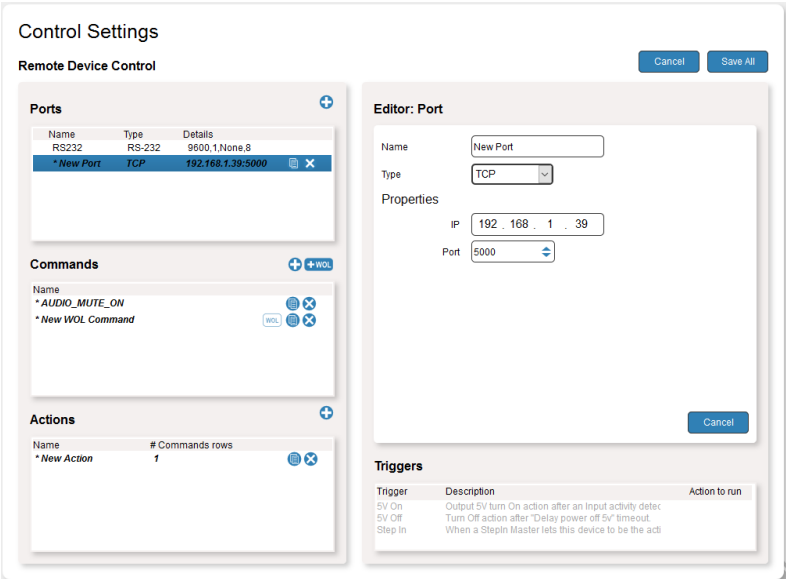

Figure 18: Configuring an Ethernet Port
- For Ethernet select Type TCP/UDP, IP address and port number (Figure 18).
1. In the Ports section, click a port. The port information is displayed in the Editor (Figure 18).